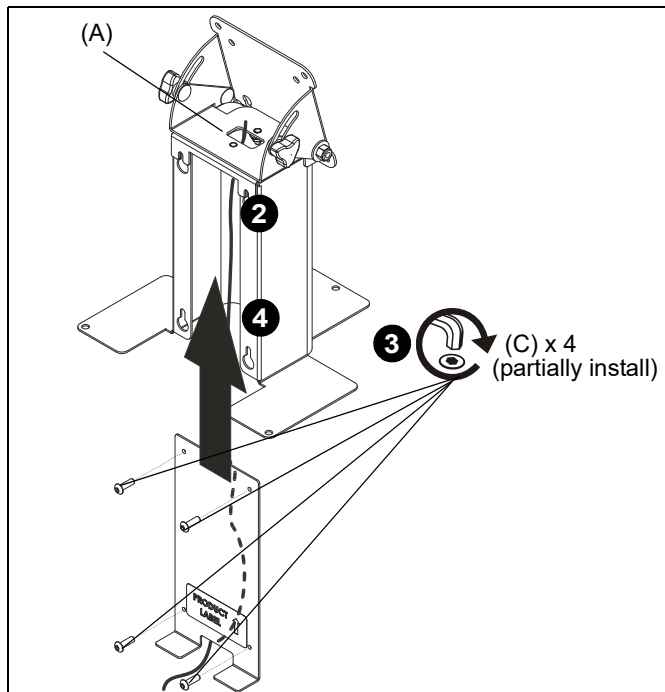

Figure 2
2. Connect cord to bottom of column-mounted tablet. (See Figure 2)
3. Partially install four #10-24 x 5/8" button head cap screws (C) into column cover (B). (See Figure 2)
4. Insert column cover (B) into column (A) channel and place four screws (C) into four holes on column cover (B). (See Figure 2)